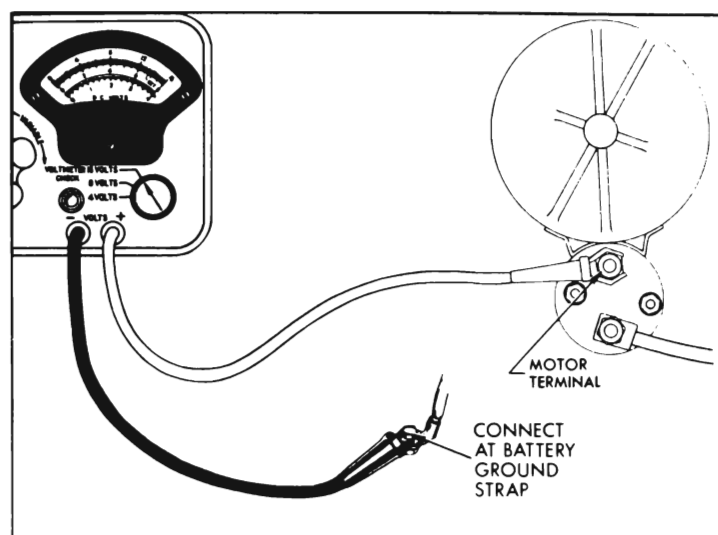

Figure 10-29—Cranking Voltage Test Connections
3. Connect voltmeter positive (+) lead to the motor terminal on solenoid switch; connect voltmeter negative (-) lead to ground on engine. See figure 10-29.